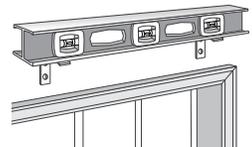

figure 5
3. Working from one side of the window to the other, install remaining brackets following step 2. Use a level to ensure that each bracket is aligned with the first bracket installed (figure 5).